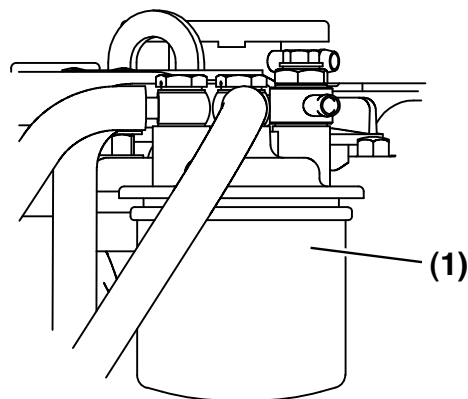

Figure 13
- Remove the cartridge filter **(Figure 13, (1))** with a filter wrench.